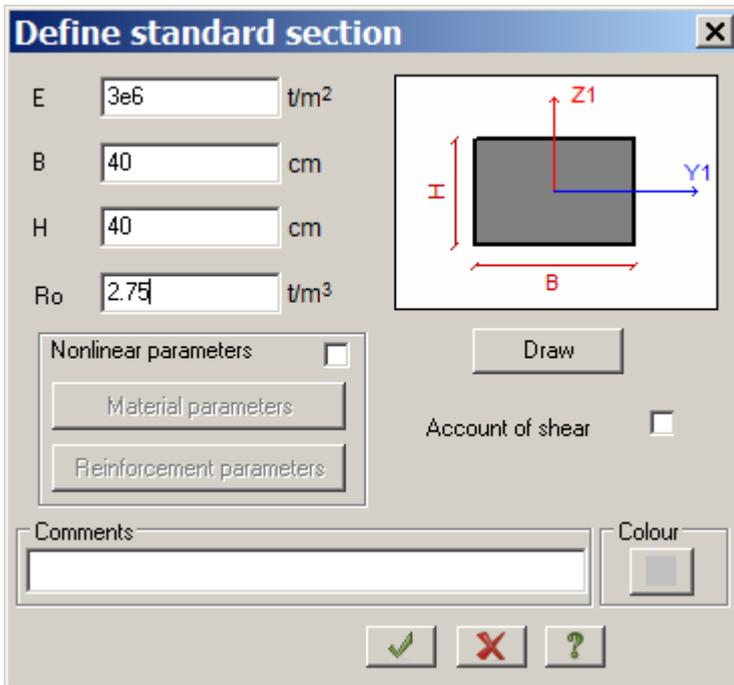

Figure 11.10 Define standard section dialog box
- ⇒ In the **Define standard section** dialog box, specify the following parameters for **Rectangular bar** (see Fig.11.10):